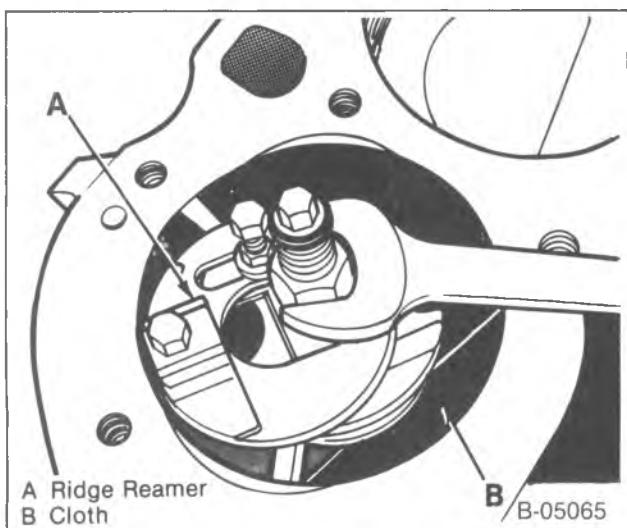

Figure 13—Removing the Cylinder Ridge
Remove or Disconnect (Figures 13 and 14)
- Perform the cutting operation with a ridge reamer (figure 13).